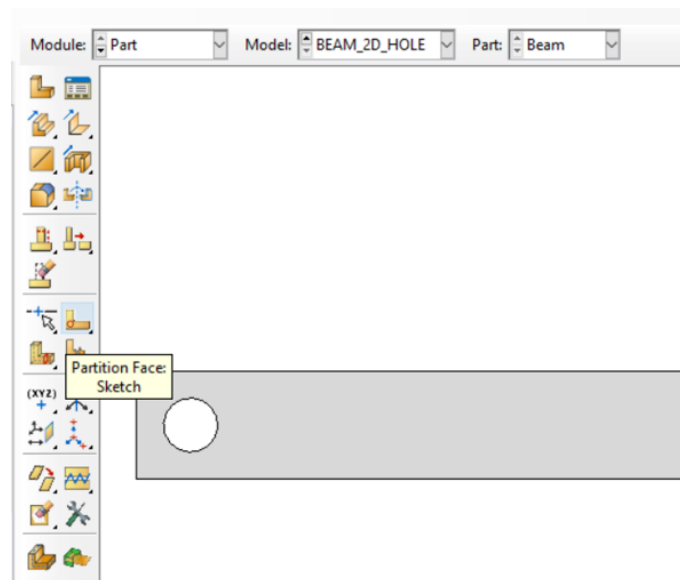

Figure 3-10 – Sketch partition face tool.
8. Before meshing the new part, it is convenient to partition the area around the hole to better control the mesh process. Click in the **Partition Face: Sketch** tool. See Figure 3-10.